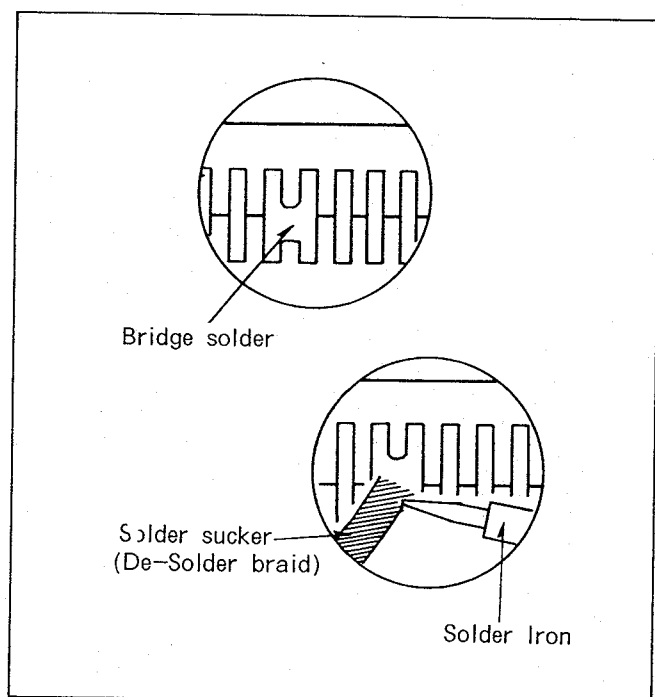

Fig. T7 Correcting bridge solder
- 7) If solder becomes bridge as shown in Fig. T7 correct the solder using solder sucker (De-solder braid).